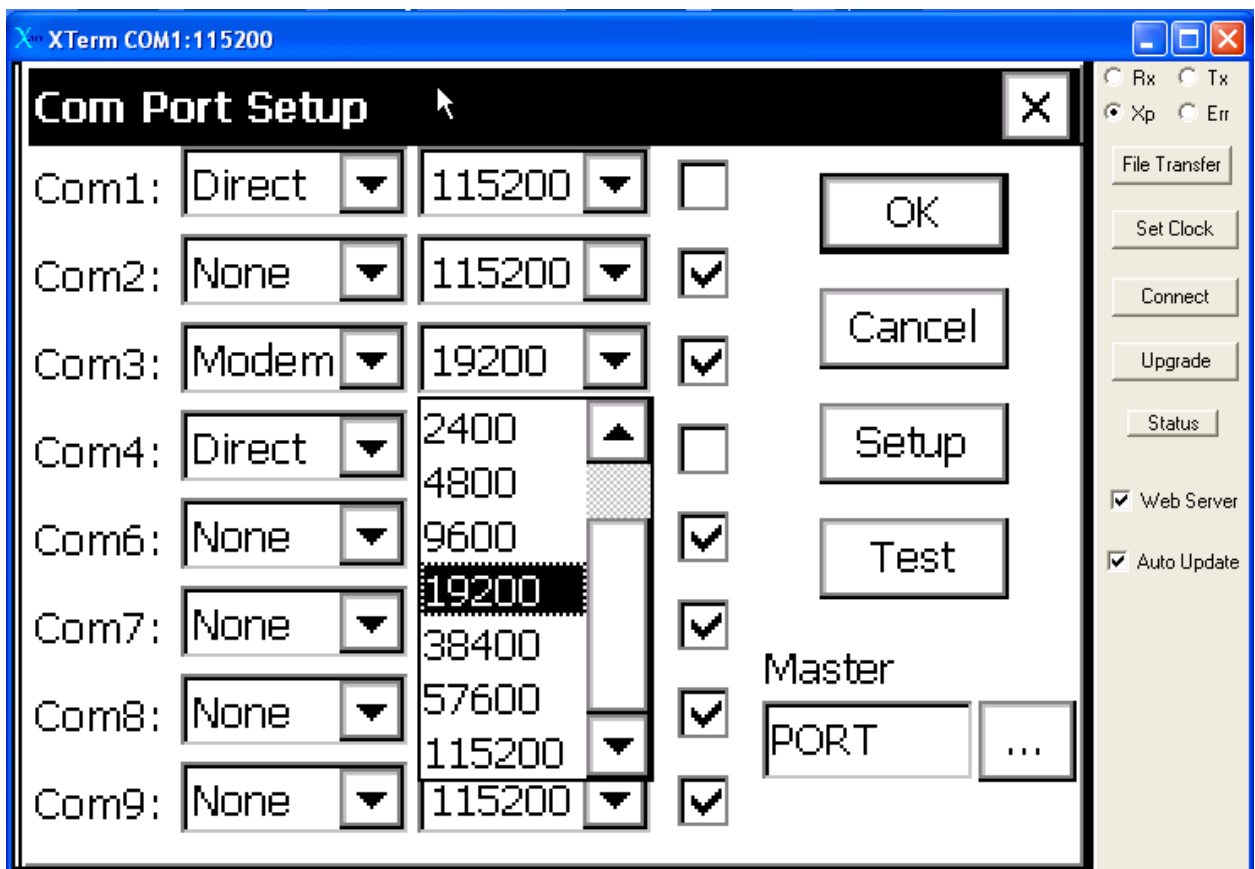

Fig 15. Xpert Com Port Setup Screen, baud rate selection
9. Go to the next block on the *Com3* line and using the Down Arrow select the baud rate of 19200 from the list (Fig 15).